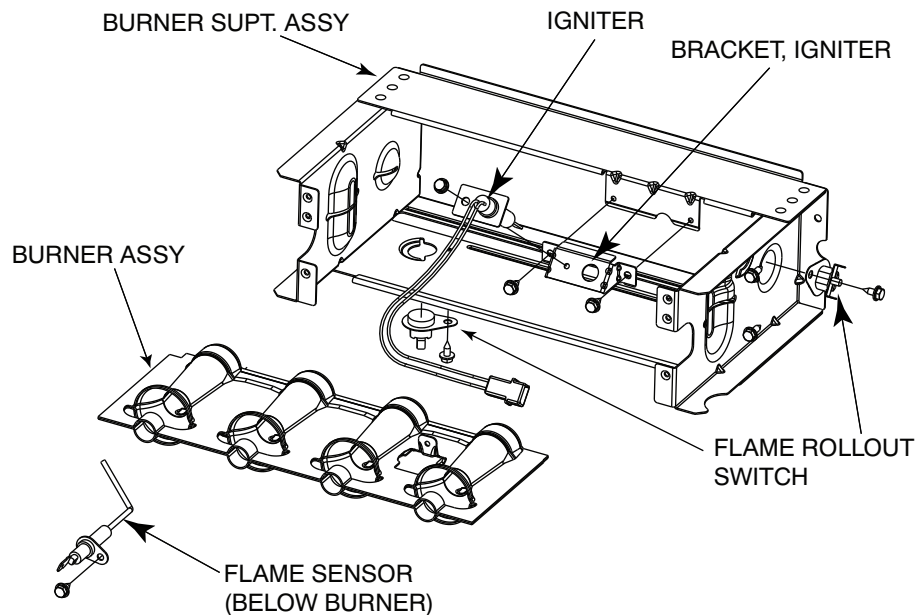

Fig. 65 - Burner Assembly
6. Remove screws attaching burner assembly to cell panel. See Fig. 65.